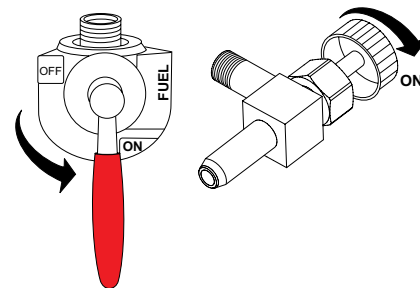

Figure 12. Fuel Tank ON/OFF Valve (ON)
4. Place the fuel tank ON/OFF valve (Figure 12) in the **ON** position.